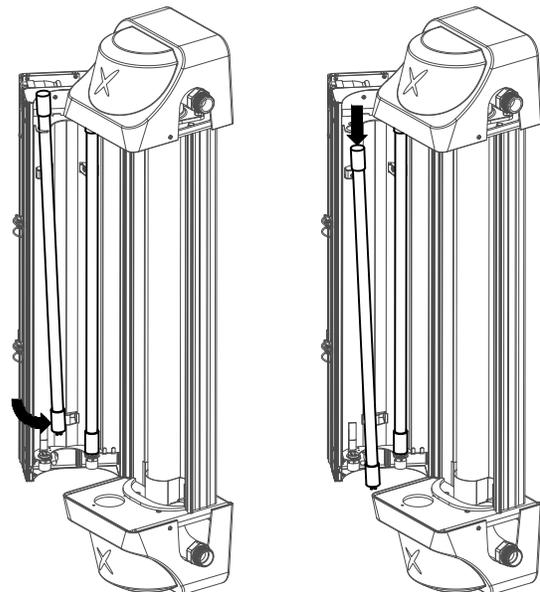

Figure 7-4
3. When the bottom pins have disengaged the socket, lift the lamp up, then swing the lamp base away from socket. Lower the lamp to disengage it from the top lamp holder. With the lamp free from the unit, carefully place it aside and remove the other lamp, see Figure 7-4.